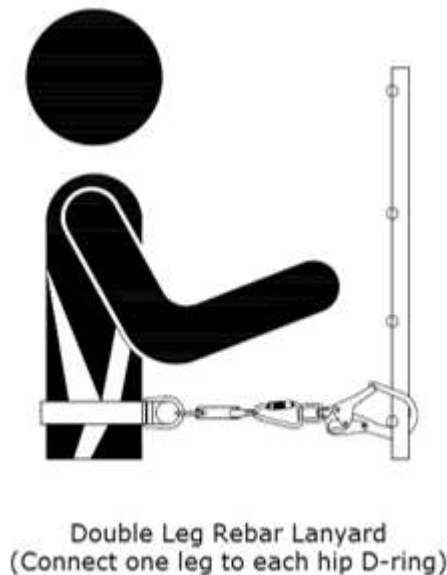

Figure 4 – Connecting To your body support
- a **CONNECTING TO YOUR BODY SUPPORT:** Connect one leg of the rebar chain assembly to each of hip D-rings on your body support (full body harness). For illustration, see Figure 4.